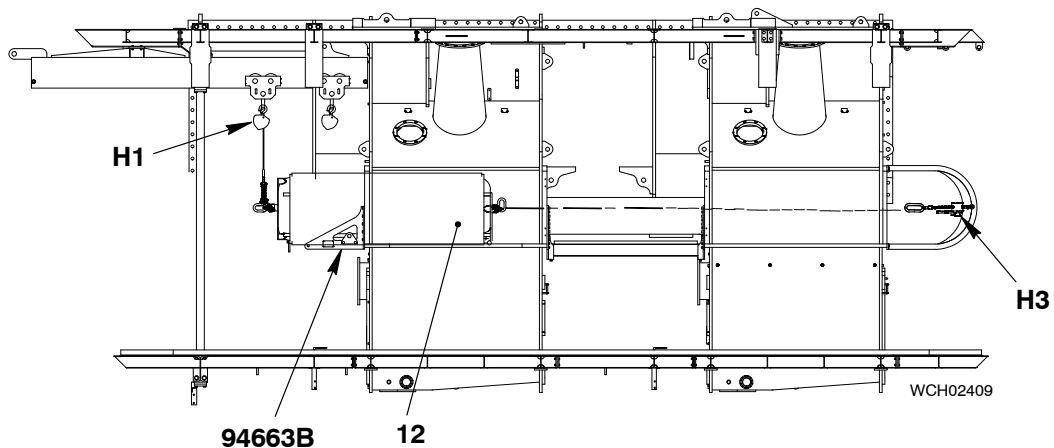

Fig. 17
- 13) Operate the manual ratchet (H3) to move the SAC (12) rearward. At the same time, move the chain block (H1) rearward until the SAC is in the position shown in Fig. 17.